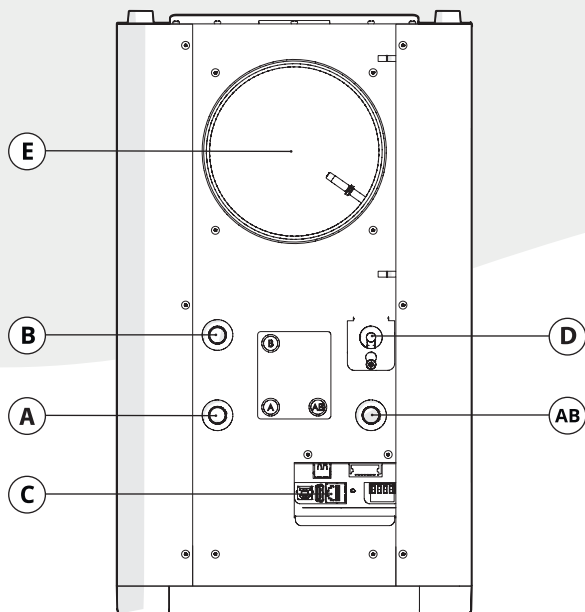

Figure 12
The connections of the GreenComfort to the air supply duct, air inlet duct and the central heating system are shown in Figures 12 and 13 .
1. Connect the central heating return pipe to the GreenComfort (figure 12 – **A**).
2. Connect the central heating supply line from the Modul-AIR to the GreenComfort (figure 12 – **b**).
3. Connect the return line to the Modul-AIR to the GreenComfort (Figure 12 – **AB**).